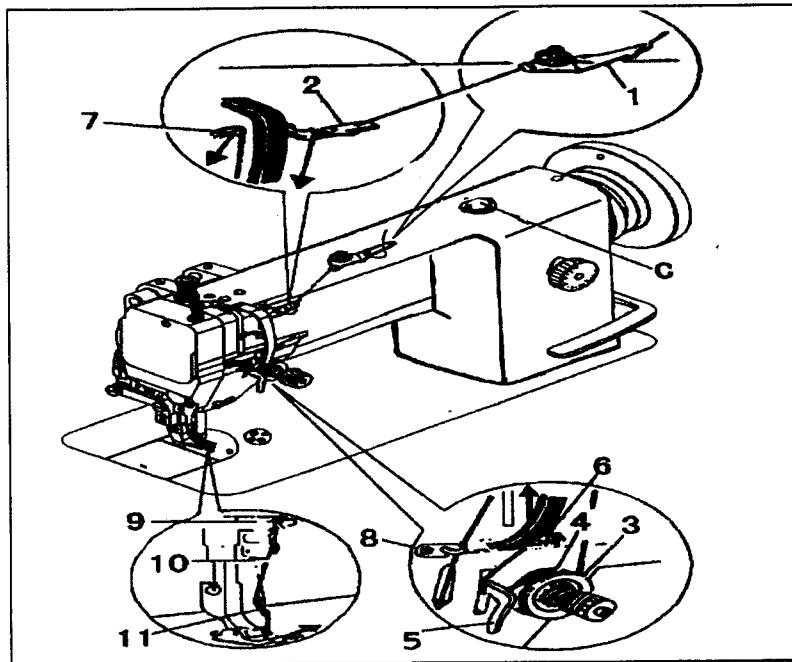

Fig. 7
8. THREADING (Fig.7)
To thread the needle thread, raise needle bar to the upper end of its stroke, lead the thread from spool and perform threading as shown in Fig.7 . To draw the bobbin thread, hold the end of the needle thread and turn the balance wheel to lower the needle bar and then to lift it to its highest position. Pull the needle thread and the bobbin thread is drawn up. Put the ends of needle thread and bobbin thread frontward under presser foot.
2) When the wound thread layer does not present a cylindrical shape as shown in Fig.7 (a), loosen Set Screw (B) of bobbin winder tension bracket and slide Bracket (C) leftward or rightward. If thread is wound as shown in Fig.7 (b), move the bracket rightward, but if thread is wound as shown in Fig.7 (c), move the bracket leftward.